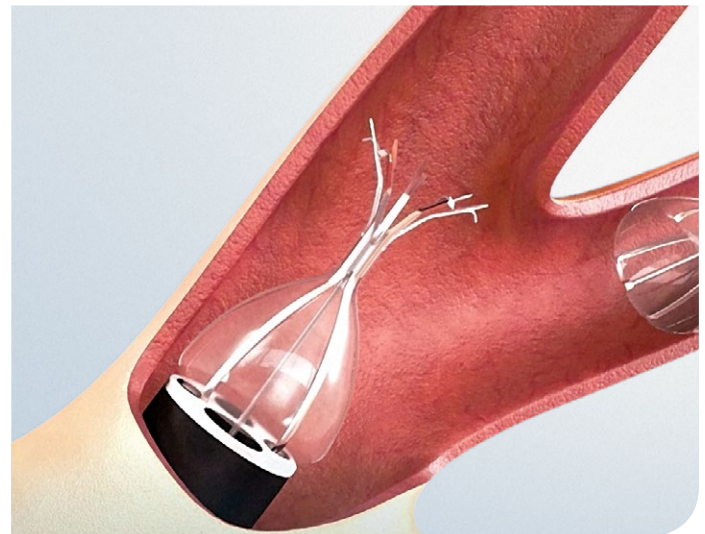

Figure 2: Spiration Valve close to end of the bronchoscope prior to removal
**Important:** Before removing the valve from the trachea, pull the valve close to the end of the bronchoscope (see Figure 2).